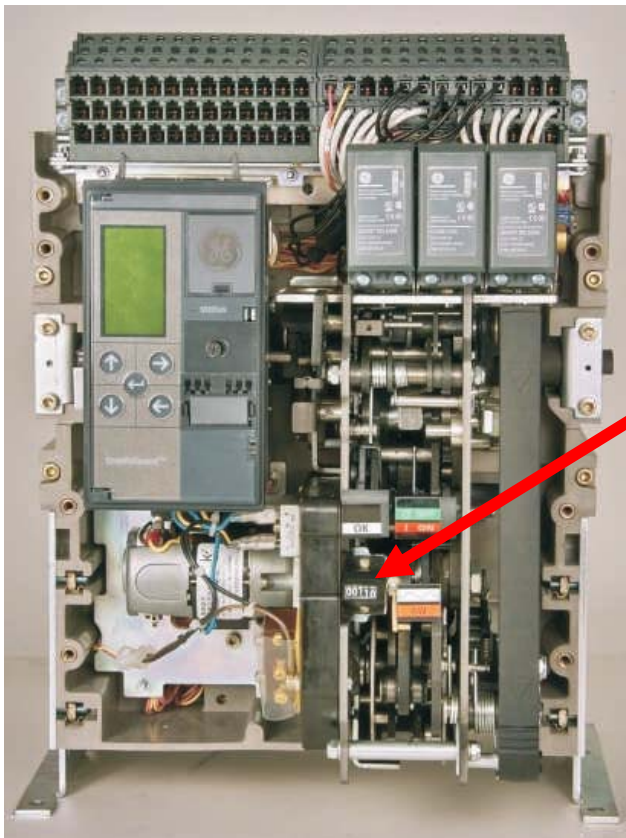

Figure 2.
3. Position the mechanical operations counter (Fig 2.) over the two holes provided inside the mechanism bracket, ensuring the indicator face is aligned to show through the window in the cover.